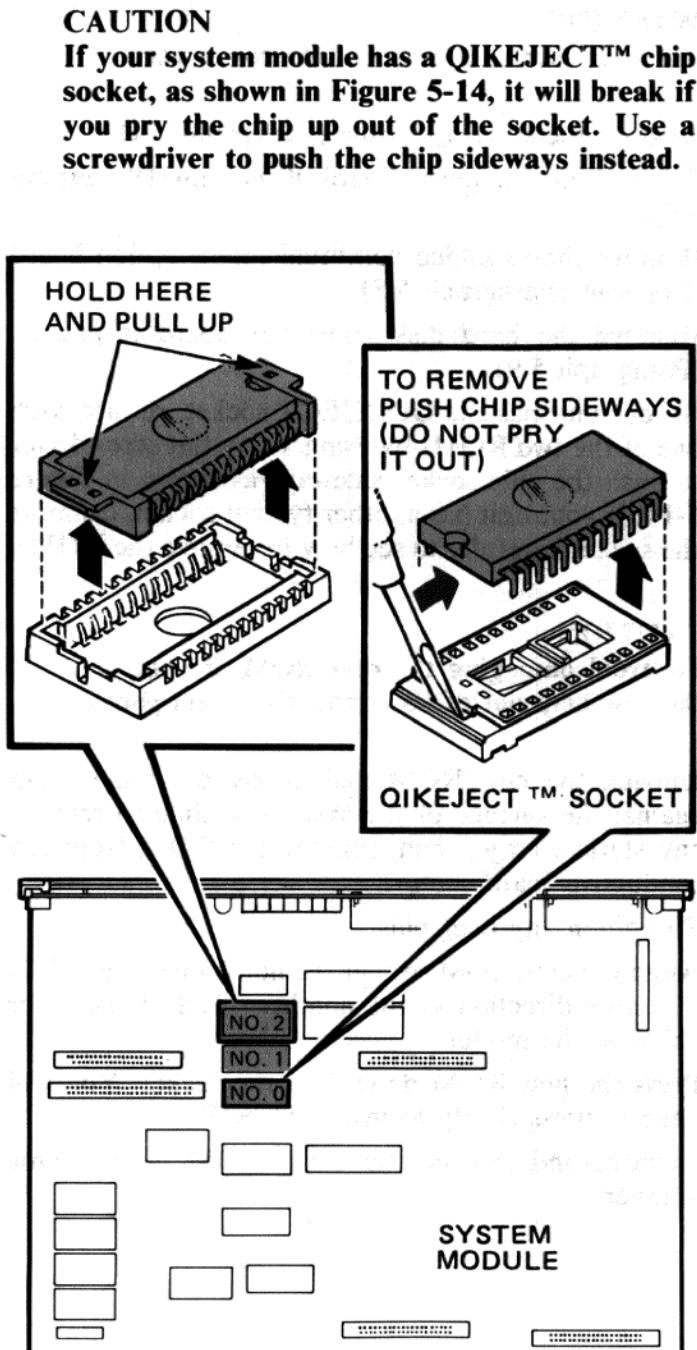

Figure 5-14 ROM Removal on PC100A
5. If your unit has the QIKEJECT socket, release each one of the two ROMs by using a tiny flat screwdriver to push the chip socket sideways as shown in Figure 5-14. If your unit has another type of socket, examine the socket carefully to see how to remove the ROMs.
2. To remove the old ROM, pull it up as shown in Figure 5-14. You will have to pull hard.